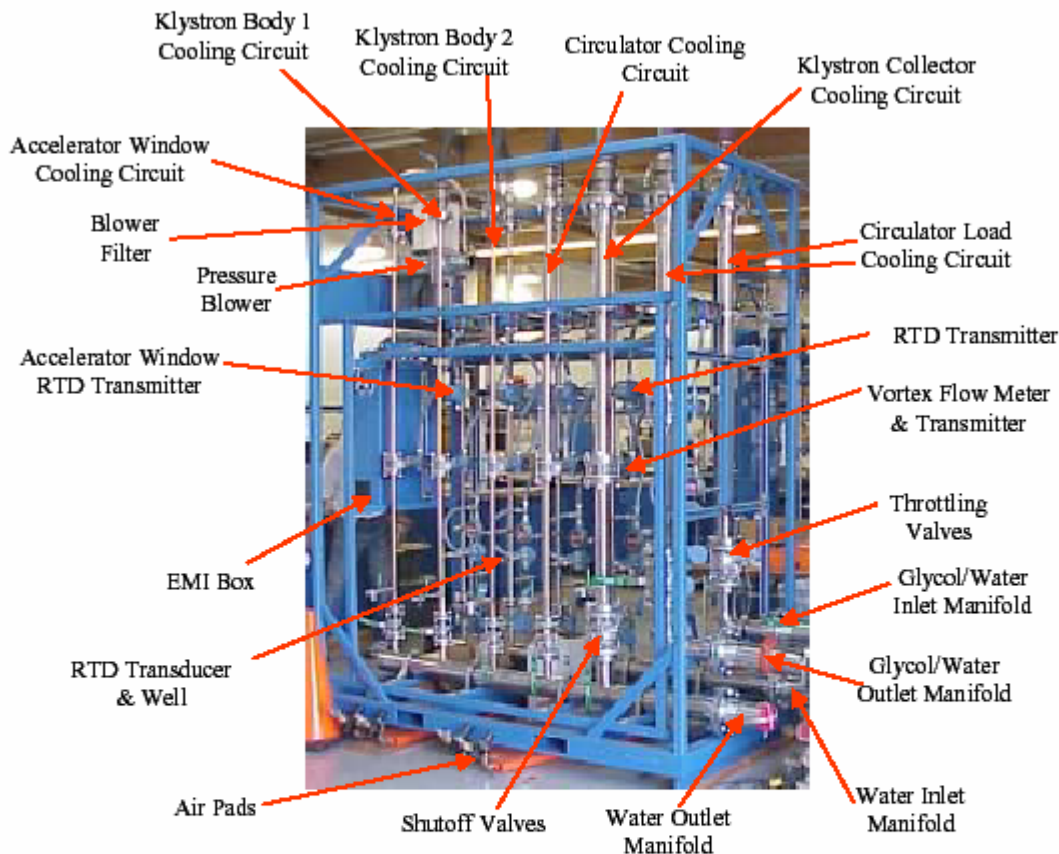

Figure 2-3. 402.5 MHz Cooling Structure.
The 402.5 MHz Cooling Structure (CS), shown in Figure 2-3, monitors the liquid coolant temperatures before and after the coolant enters the klystron collector and body circuits, high power circulator and its load and the accelerator window (remotely). It also measures the flow rates in each of these circuits. The flows and temperatures are then used to calculate dissipation at the heat loads. There is a separate liquid cooling circuit for the Circulator Load, which uses a glycol/water mixture. The 805 MHz CS uses water to cool the circulator load.